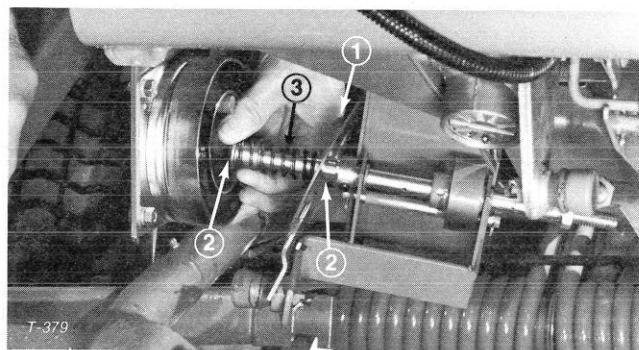

Figure 26
13. Insert flange bushing into clutch plate from left side, slide traction pedal shaft through bushing and install spring and flange bushing onto shaft (Fig. 26).